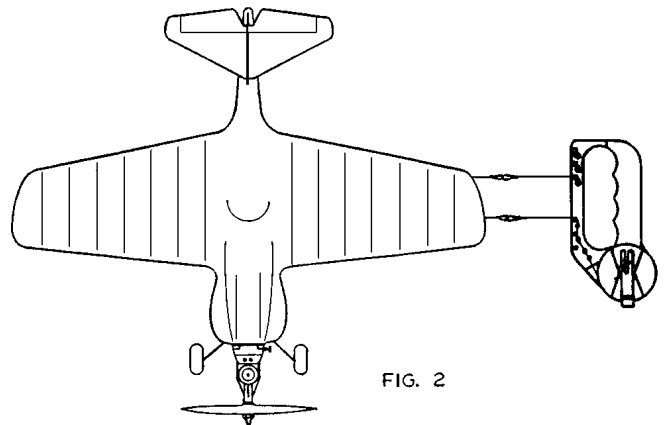

FIG. 2
4. Pull out lines from reel. Attach top line to rear wing wire. Attach lower line to front wing wire. (Fig. 2) Hold with lines tight and adjust so handle position corresponds to elevator position. (Fig. 5)